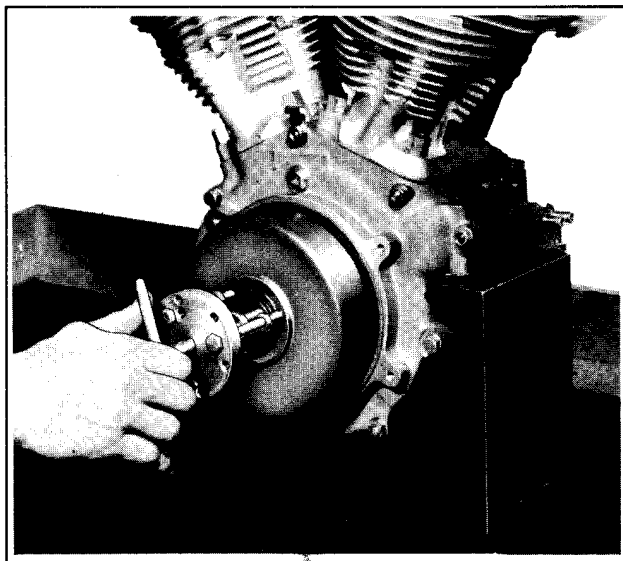

Figure 5-13. Pulling Alternator Rotor
6. Remove sprocket spacer from sprocket shaft. Using Puller, Part No. 95960-52A, pull alternator rotor from sprocket shaft as shown in Figure 5-13.